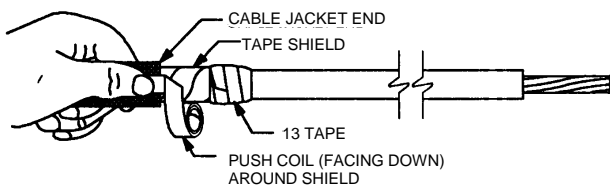

Figure 3
3. Hold the strap in place with thumb. Pull the coil around the cable allowing it to unwrap and rewrap around the shielding and itself (**Figure 3**). **NOTE: Cinch (tighten) the applied coil after final wrap.**